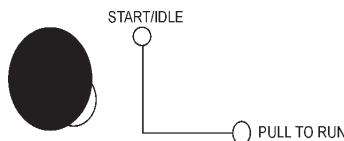

Figure 53. Engine Throttle Control Lever
3. Turn and push the engine throttle control lever (Figure 53) to the idle (low) position.